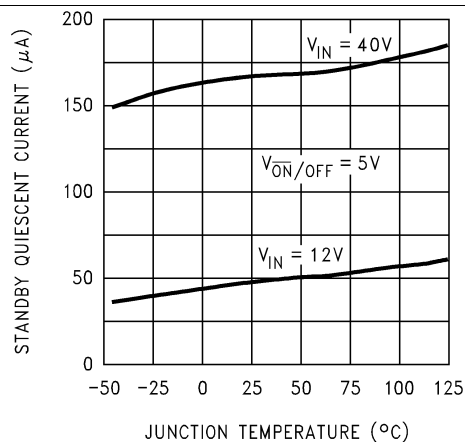

Figure 6. Standby Quiescent Current
- The oscillator frequency reduces to approximately 18 kHz in the event of an output short or an overload which causes the regulated output voltage to drop approximately 40% from the nominal output voltage. This self protection feature lowers the average power dissipation of the IC by lowering the minimum duty cycle from 5% down to approximately 2% (see Figure 6).